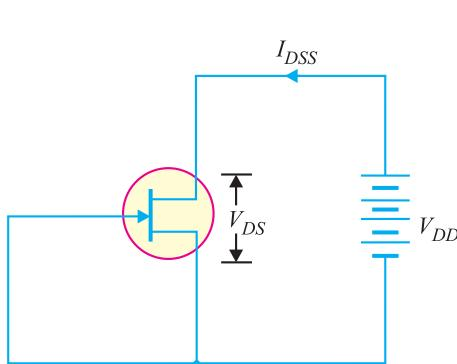
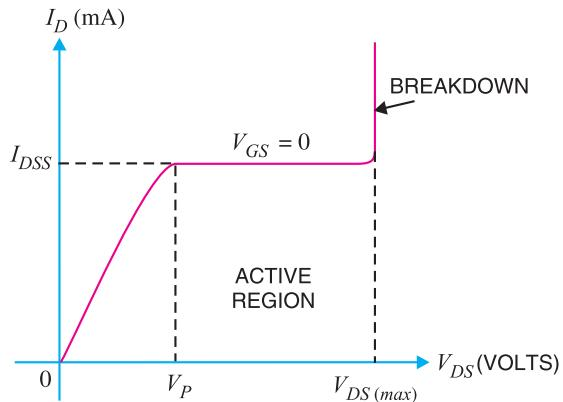

Fig. 19.9
Fig. 19.10
Fig 19.9 shows the *JFET* circuit with $V_{GS} = 0$ i.e., source shorted-circuited to gate. This is normally called shorted-gate condition. Fig. 19.10 shows the graph between I_D and V_{DS} for the shorted gate condition. The drain current rises rapidly at first and then levels off at pinch off voltage V_p . The drain current has now reached the maximum value I_{DSS} . When V_{DS} is increased beyond V_p , the depletion layers expand at the top of the channel. The channel now acts as a current limiter and **holds drain current constant at I_{DSS} .
- (ii) There is a maximum drain voltage [$V_{DS(max)}$] that can be applied to a JFET. If the drain voltage exceeds $V_{DS(max)}$, JFET would breakdown as shown in Fig. 19.10.